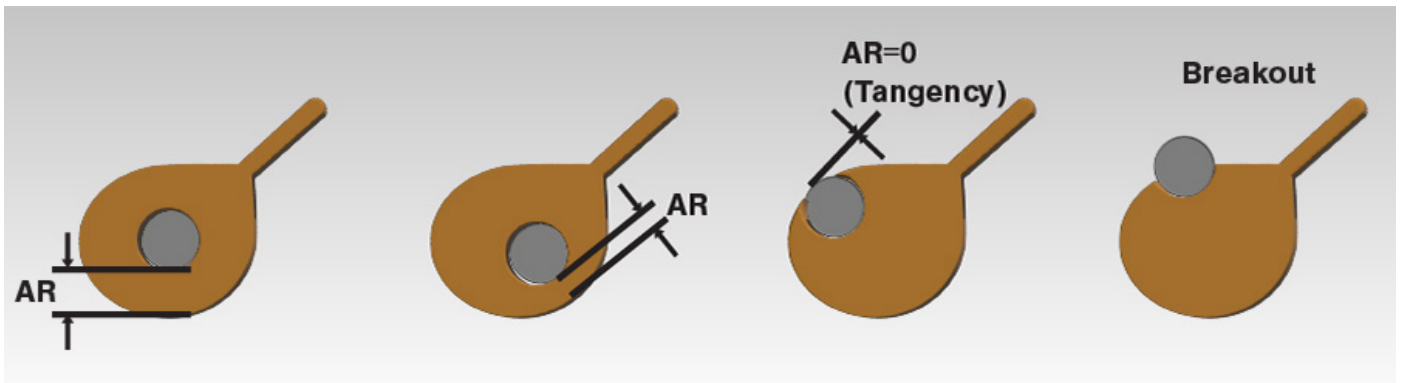

Figure 5. Drill wander can sever a pad from a trace.
More demands will be required of the materials and components for high-voltage PCBs and connections. They'll be more susceptible to voltage fluctuations, exposure to different environments and humidities, and potential overvoltage as the product degrades. That's why it's incredibly important to use circuits specifically recommended and designed for clearance and creepage (Figure 5).
Figure 5. Design rules are set up (left) with the result (right) shown on traces, planes and polygon pours; found on same 48V input power connector (50 mils or >1mm between 48V and ground).
- **Annular ring breakout.** Small pads on plated through-holes may not be able to account for drill wander, the result being a drill hit that severs a pad from a trace (Figure 5).